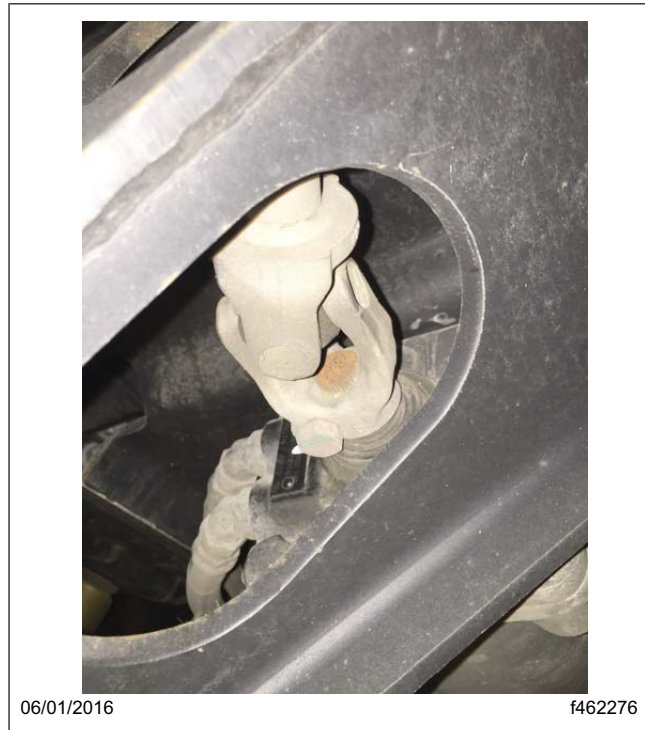

Fig. 17, Intermediate Shaft Connected to the Steering Gear
- 13.1 Slide the intermediate shaft U-joint onto the steering gear input shaft. See Fig. 17.